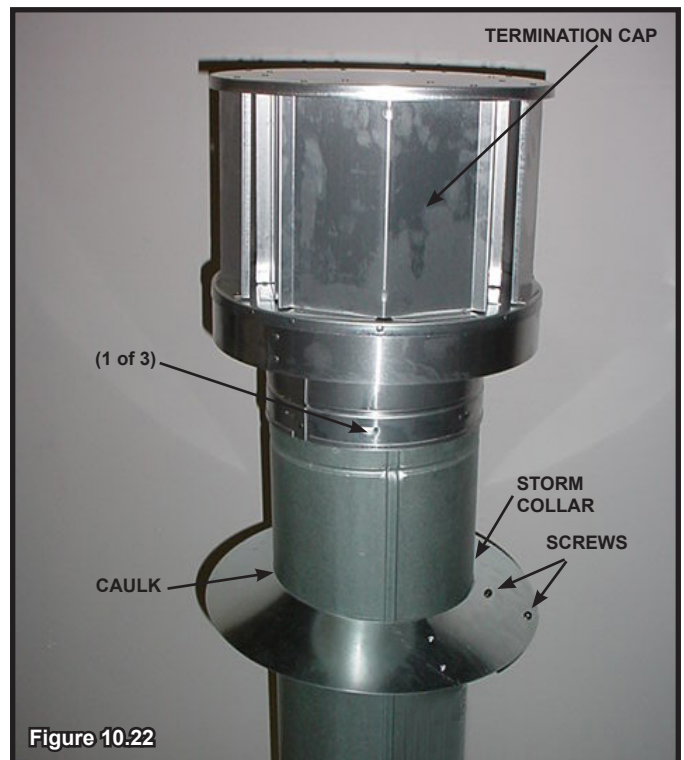

Figure 10.22
- Secure the cap by driving three self-tapping screws (supplied) through the pilot holes in the outer collar of the cap into the outer flue of the pipe (see Figure 10.22).